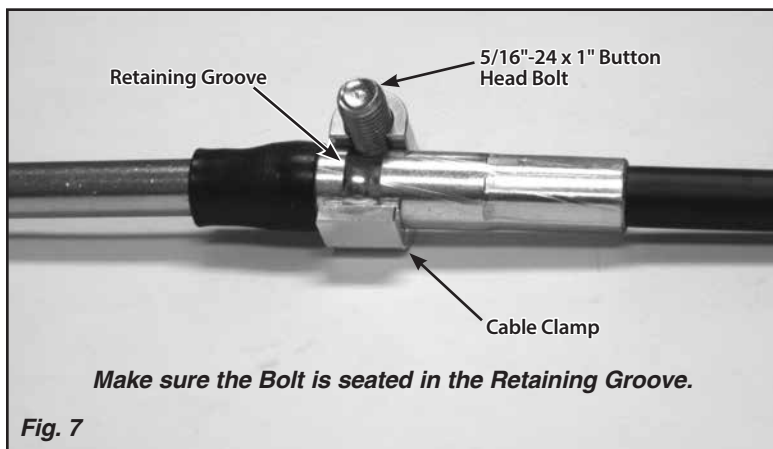

Fig. 7
Step 15: Insert the 5/16"-24 x 1" button head bolt into the upper cable clamp, and position the upper cable clamp on the cable, making sure that the bolt is seated in the retaining groove. **Fig. 7**